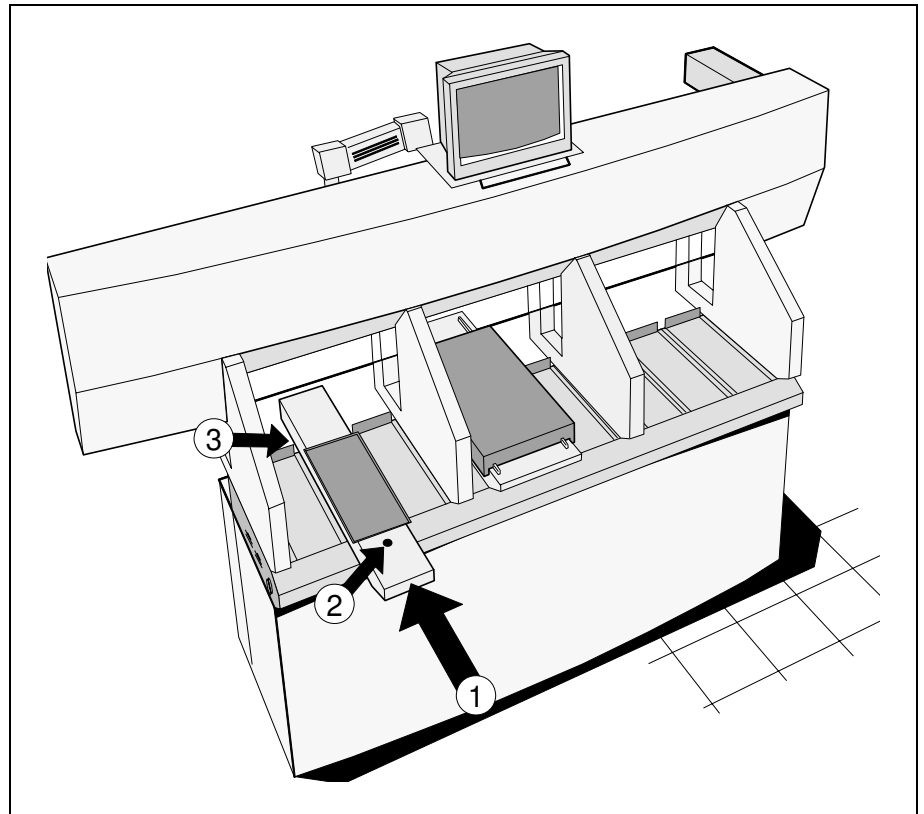

Figure 13-18. Tray Wagon Magazine.
Figure 13-18 below shows the Tray Wagon Magazine inserted in one of the magazine positions of a TP9-UFP machine.
1. Insert the Tray Wagon magazine in a magazine position ('1' in Figure 13-18). Any magazine position can be used for a one-module magazine. Two- and three-module magazines can be used in all magazine positions except for the positions required for the magazine top overhang.
2. Fasten the magazine by tightening the screw (2).